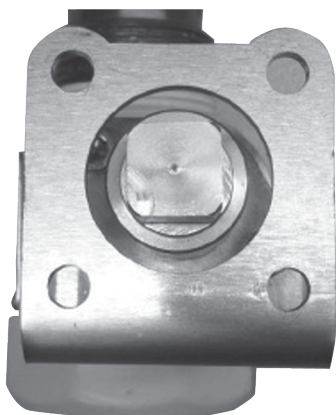

Figure 3. Coupler Installation For Size 1-1/4 in. Rotary Actuator
6. With the coupler and stub shaft pinned together and the valve cam touching the valve stem turn the coupling counter clockwise 1/8 of a turn or until the flat of the coupling is square with the valve (see Figure 3).